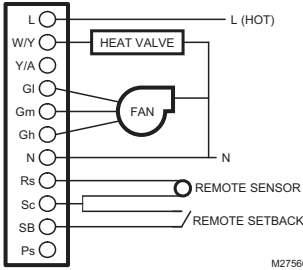

Fig. 7. Two pipes Heat-only wiring diagram (120/240/277 Vac shown).
- TB6575A1016, TB6575B1000 and TB6575C1016 fan coil thermostats, which are 120/240/277 Vac powered. Refer to Fig. 7–Fig. 13, beginning on page 8.